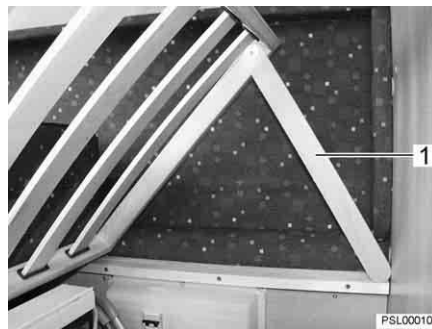

Fig. 34 Fixed bed
- Position the two supports (Fig. 34,1).
- Lift the slatted frame as far as possible. Screw in the supports (Fig. 34,1).